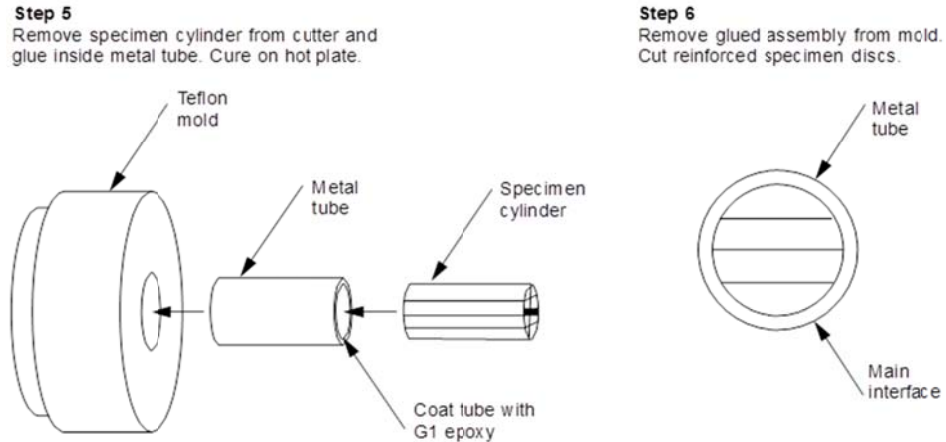

Figure 4-10 Cross section specimen preparation.
5. Strengthen the cylindrical specimen stack. The 2.3 mm cylinder is now glued with G-1 epoxy inside a 3mm diameter metal reinforcing tube and cured for 10 min on a hot plate at 130 °C (Figure 4-10, Step 5). The tube holds the fragile cross-sectioned structure together during grinding, dimpling, ion milling (especially low-angle milling), and subsequent clamping in the TEM specimen holder.
6. Slice the specimen discs. The metal reinforcing tube containing the specimen cylinders is sliced into a series of 250-400 μm thick discs with a thin blade diamond saw (Figure 4-10, Step 6). The sliced disc is then ground flat from both sides to a thickness of approximately 80 μm using the Gatan Precision Disc Grinder and dimpled according to the procedure described in Section 4.2.